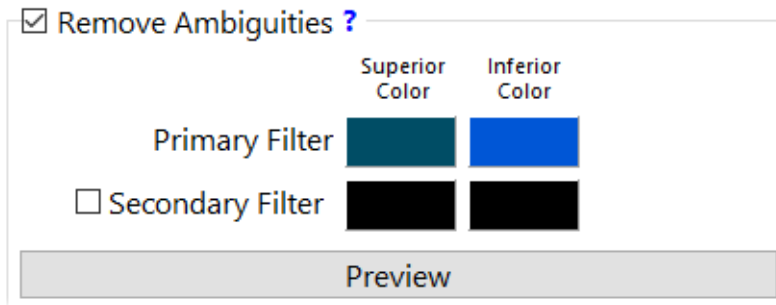

Figure 10
- The **Remove Ambiguities** option (Figure 10) is used to fix errors whereby; when curves go off-scale and wrap, spikes may appear within the output due to overlap (i.e., portions of two curves occupying the same row of pixels). As a consequence, erratic spikes may occur within the output inside the overlapping zone.